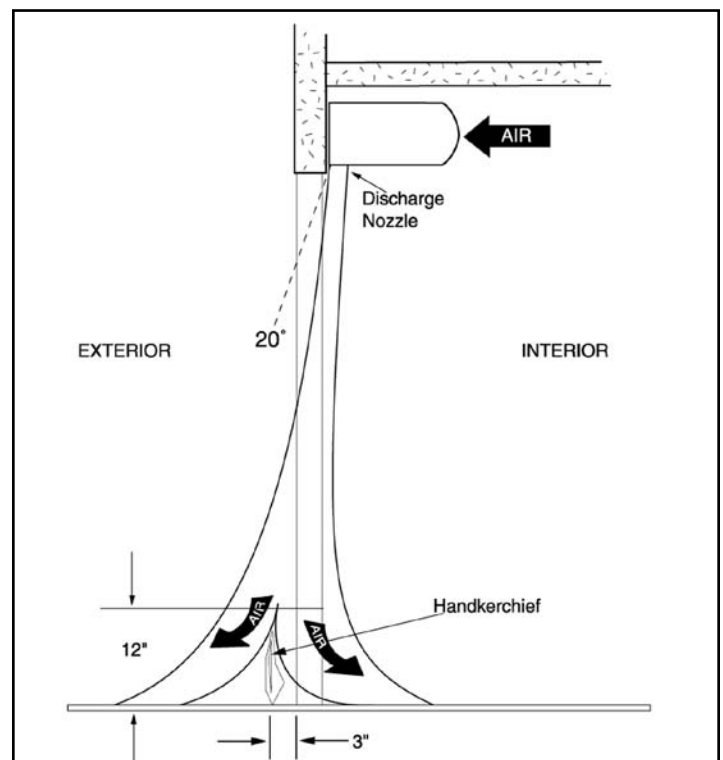

FIGURE 9 - Airflow Adjustment
- B. Find the air stream split location. Hold a handkerchief, by corner, approximately 12" above the floor. Gently move the handkerchief back and forth in the doorway. Make sure the air is being directed to both the inside and the outside. See **Figure 9**. The split location is indicated where the handkerchief is vertical with minimal or no fluttering.